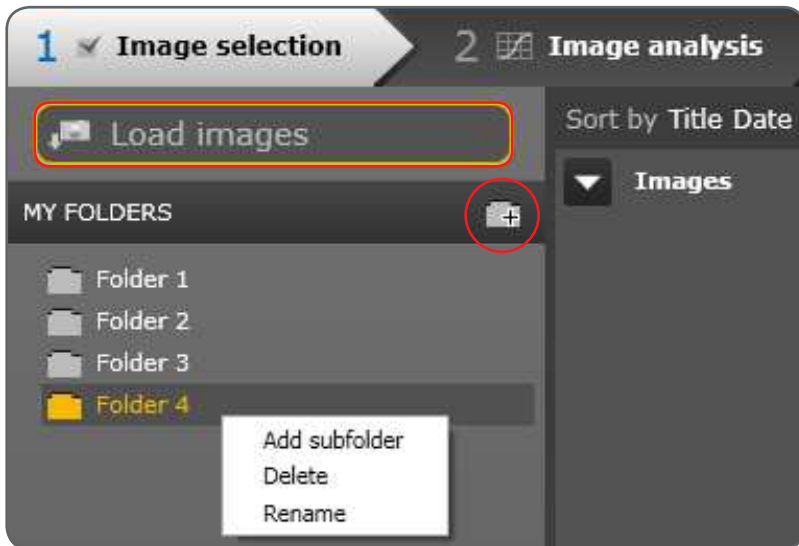

Figure 6 Add a Folder
- a) Click on the button circled in red on Figure 6 to add a folder.
Images can be loaded by clicking on the “Load Images” button highlighted in red on Figure 6.